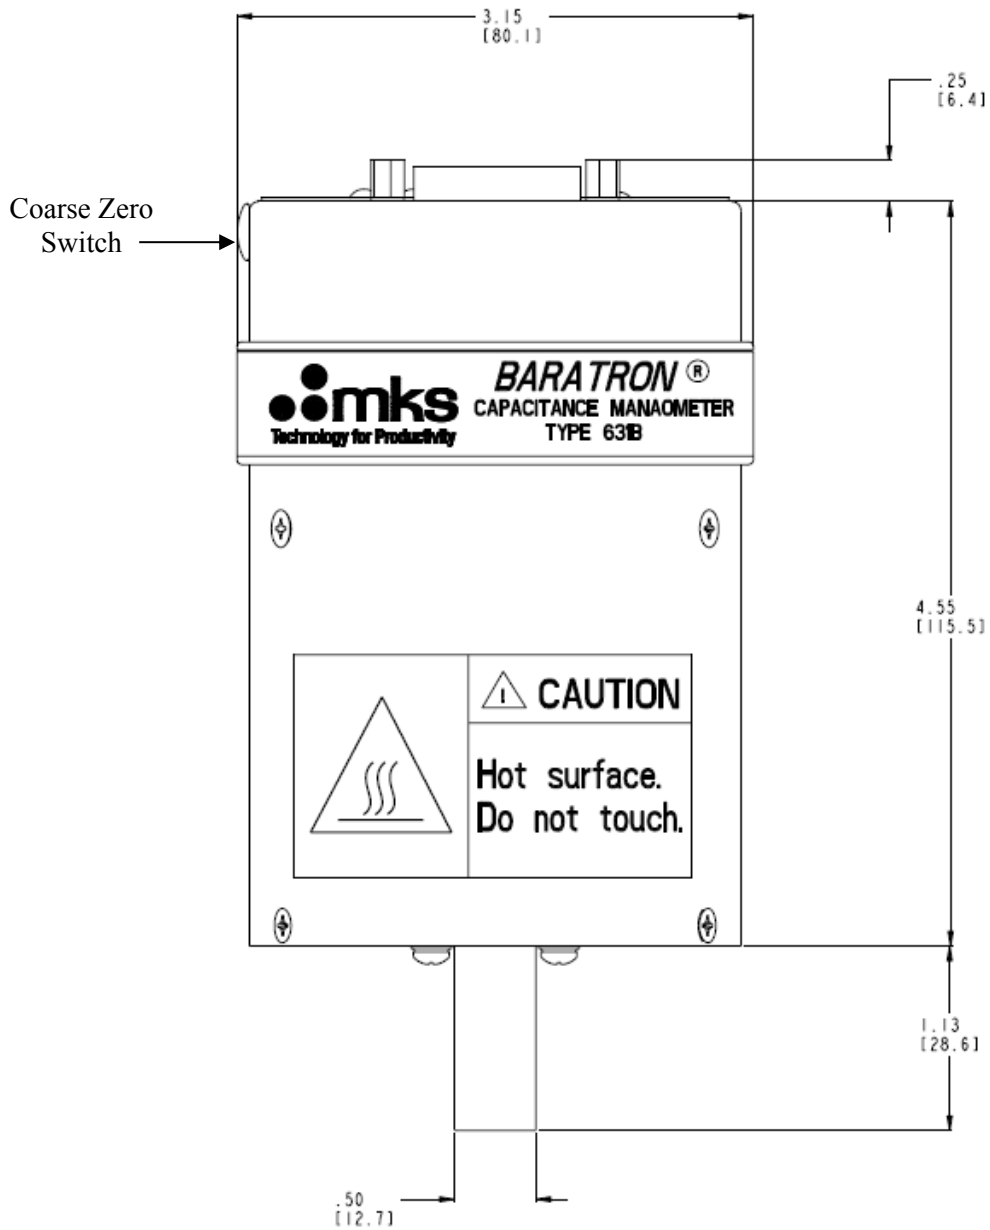

Figure 4: Dimensions of the Type 631C Transducer
5. Remove the plug that covers the COARSE ZERO switch. Refer Figure 4: Dimensions of the Type 631C Transducer, page 32.